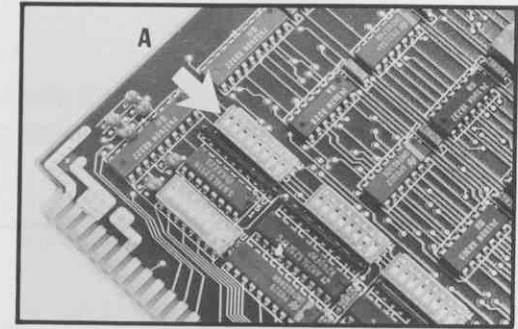

Figure 89 Tape Controller U50 Switches
- 6.25 Locate the switches at the position marked U50 on the 1/4" tape controller board. Set the switches **OFF** or **OPEN** as shown in Figure 89 to disable the 1/4 mB of Multibus memory located on the board.